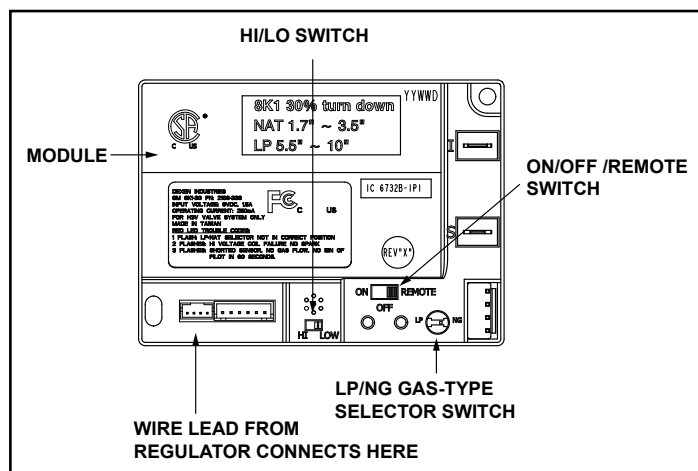

Figure 3.8 Control Module
This model has a variable burn rate which is controlled by the HI/LO switch on the control module. Therefore the flame height is adjustable. The HI/LO switch is shown in Figure 3.8. It is located in the control cavity of the appliance.
1. The control module has an ON/OFF/REMOTE selector switch that must be set. See Figure 3.8.
2. If using the wired switch in the control cavity with the module in REMOTE mode, the flame output can be adjusted with the HI/LO selector switch on the module. See Figure 3.8. Note that the flame HI/LO selector switch will become inactive once an optional remote control (RC200/RC300) is programmed to the control module. Note that the control module will always ignite the stove on HI and remain so for the initial 10 seconds of operation. If the HI/LO is switched to the LO position, the flame output will automatically drop to the lowest setting after the flame has been established for 10 sec. After this 10 second period, the flame can be adjusted from HI to LO with the switch.
- Locate the module selector switch. (See Figure 3.8).
- Wait five (5) minutes to allow possible accumulated gas to clear.